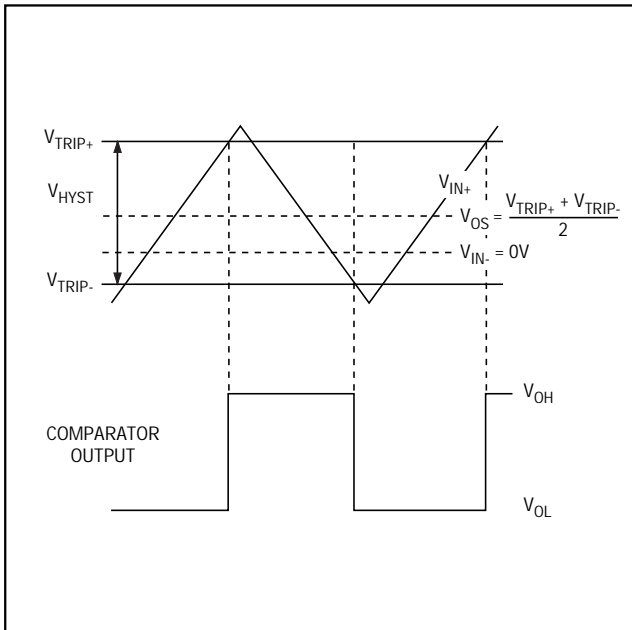

Figure 1. Input and Output Waveform, Noninverting Input Varied
- Note 2:** The input-referred trip points are the extremities of the differential input voltage required to make the comparator output change state. The difference between the upper and lower trip points is equal to the width of the input-referred hysteresis zone. See Figure 1.
- Note 3:** VOS is defined as the center of the input-referred hysteresis zone. See Figure 1.
The hysteresis in a comparator creates two trip points: one for the rising input voltage and one for the falling input voltage (Figure 1). The difference between the trip points is the hysteresis. When the comparator's input voltages are equal, the hysteresis effectively causes one comparator input voltage to move quickly past the other, thus taking the input out of the region where oscillation occurs. Standard comparators require hysteresis to be added with external resistors. The MAX941/MAX942/MAX944's fixed internal hysteresis
Figure 1 illustrates the case where  $IN-$  is fixed and  $IN+$  is varied. If the inputs were reversed, the figure would look the same, except the output would be inverted.